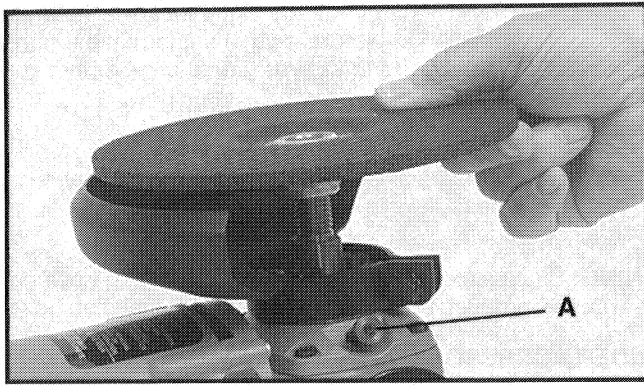

Fig. 6
5. Tighten wheel by depressing the spindle lock pin (A) Fig. 6, and holding the machine with one hand, while rotating the wheel clockwise with the other hand. Hand-tighten firmly.
Use depressed center grinding wheel and safety guard (see Fig. 6). The guard shall be positioned so that flying chips or pieces of a wheel that might accidentally break will be deflected away from the operator. Install auxiliary handle in either side of the gear housing. Firmly grip the auxiliary and rear handles. Lift up rear handle so only the front sector of the grinding wheel contacts work before starting or stopping the motor. When the grinder is not being used, rest it on the tool rest and rear handle. For installation of the depressed center grinding wheel, see INSTALLING DEPRESSED CENTER GRINDING WHEEL.